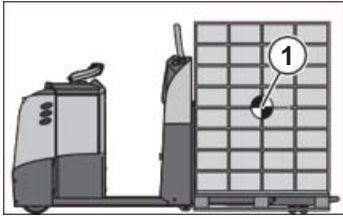

Fig. 2 Load center
The load center (Fig. 2, ①) is the center of the load at which point the mass is concentrated.